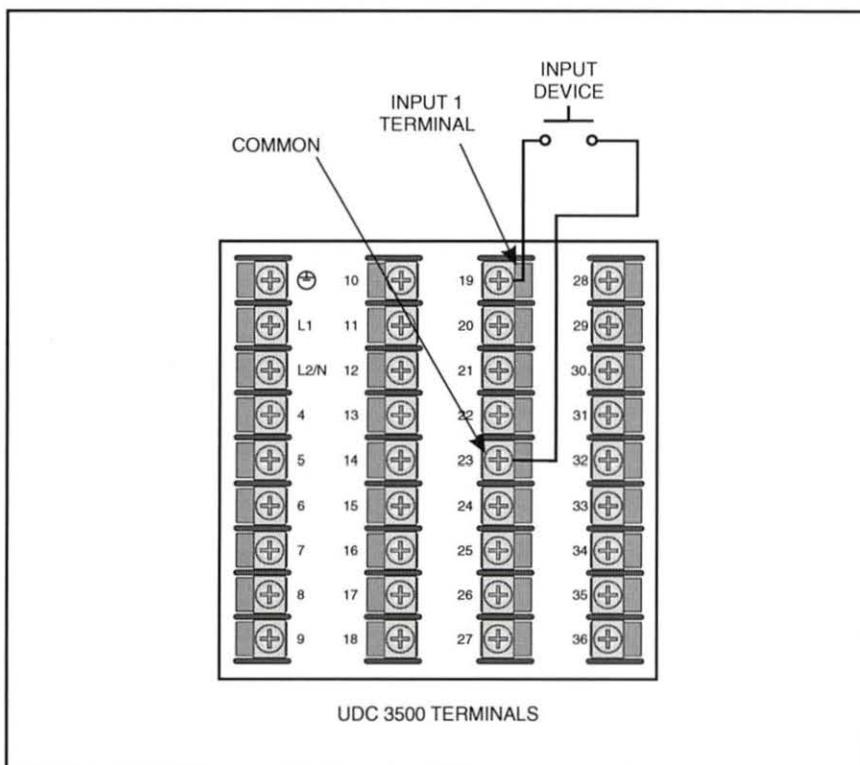

Figure 65. Discrete Input Wiring Diagram
When the contacts of an input device connected to the controller's discrete input close, the controller senses the closure and performs the programmed function. Figure 65 shows an example of a wiring diagram for discrete inputs on a Honeywell controller. The input device is connected between the common (23) and input 1 (19).